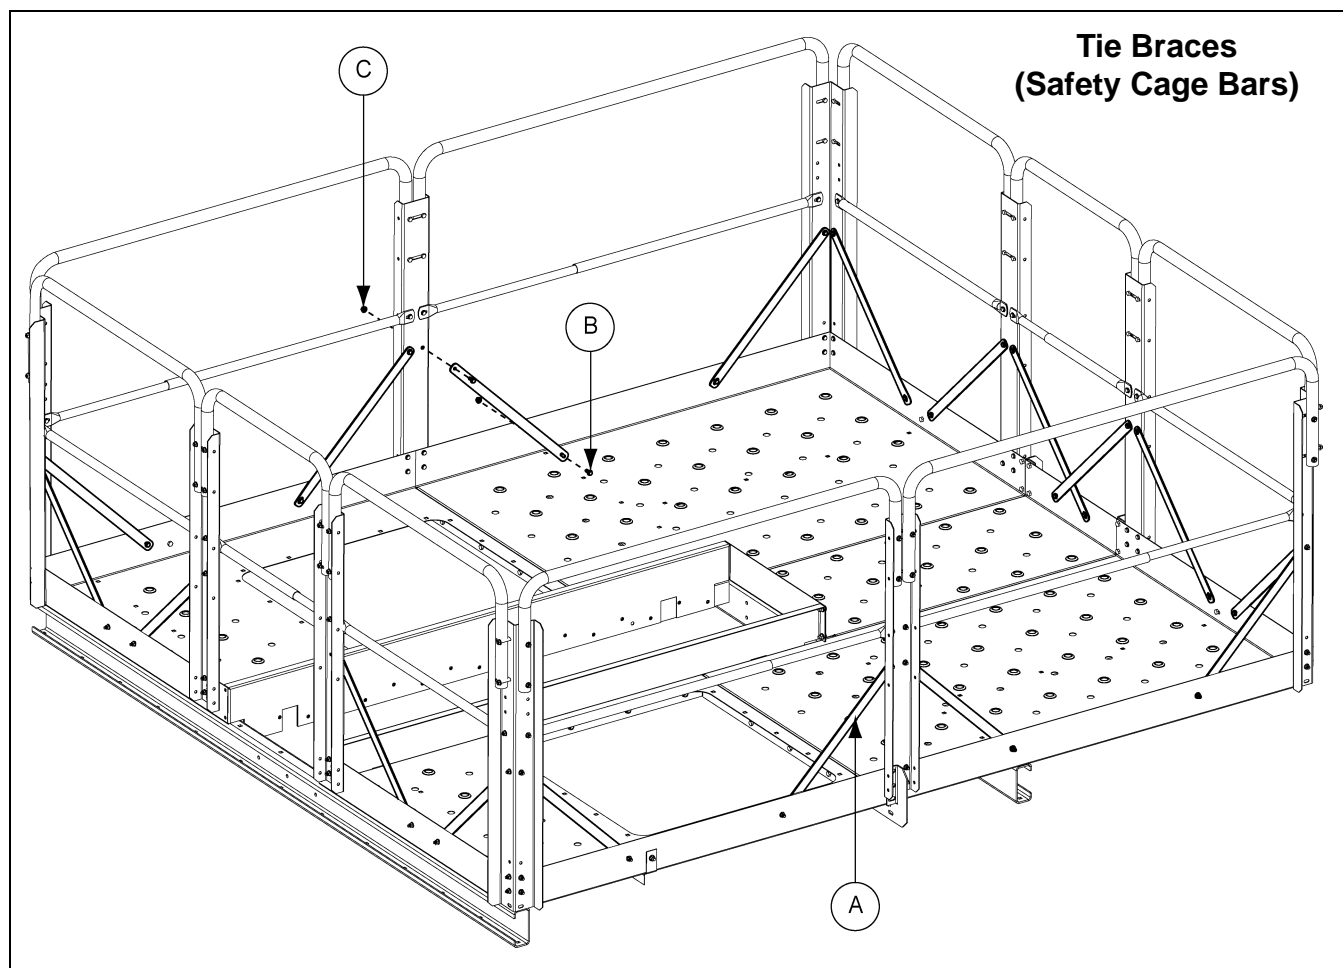

Figure 8V Safety Cage Cross Brace
1. At each of the four (4) "W" corner posts (HP1648HWP), attach two (2) tie braces (safety cage bar LDR-5171BE) from the lower half of the post to the deck kick plate using 5/16" nuts (S-10268) and 5/16" x 3/4" flange bolts (S-6606). (See Figure 8V.)